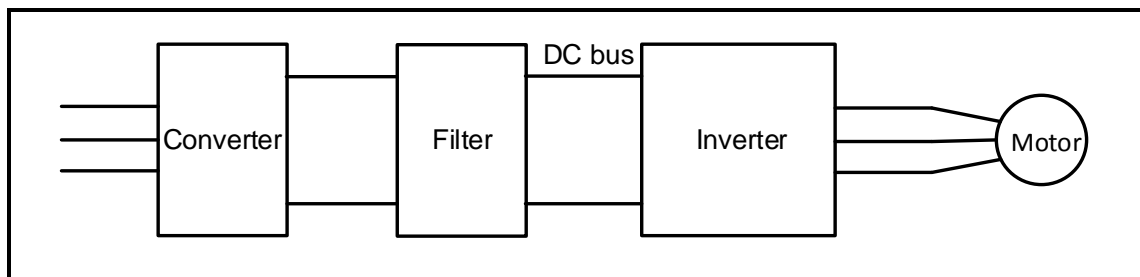

FIGURE 7.6: BLOCK DIAGRAM OF A VARIABLE SPEED DRIVE
- 7.6 FIGURE 7.6 is a block diagram of a VSD. Answer the questions that follow.